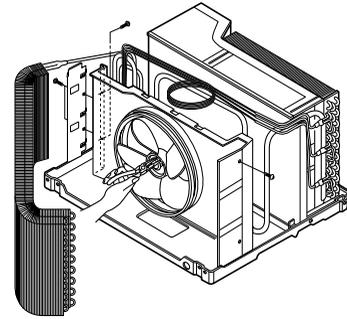

Figure 7
(See Fig. 7)
7. Remove the fan. (See Fig. 7)